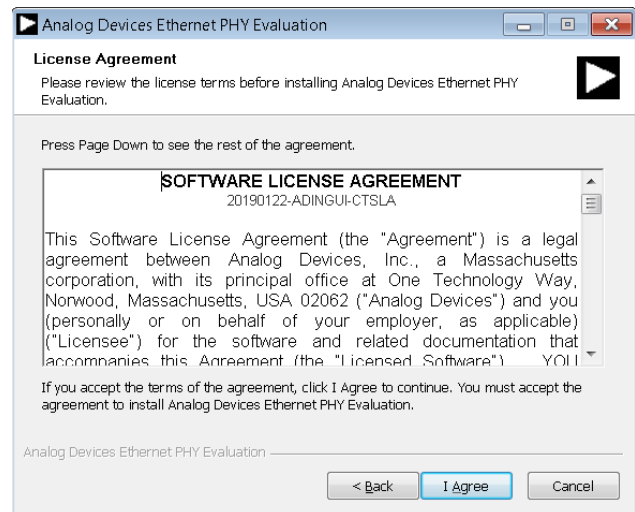

Figure 9. Accepting the License Agreement
5. A license agreement appears. Read the agreement and click **I Agree** to allow the installation to proceed (see Figure 9).